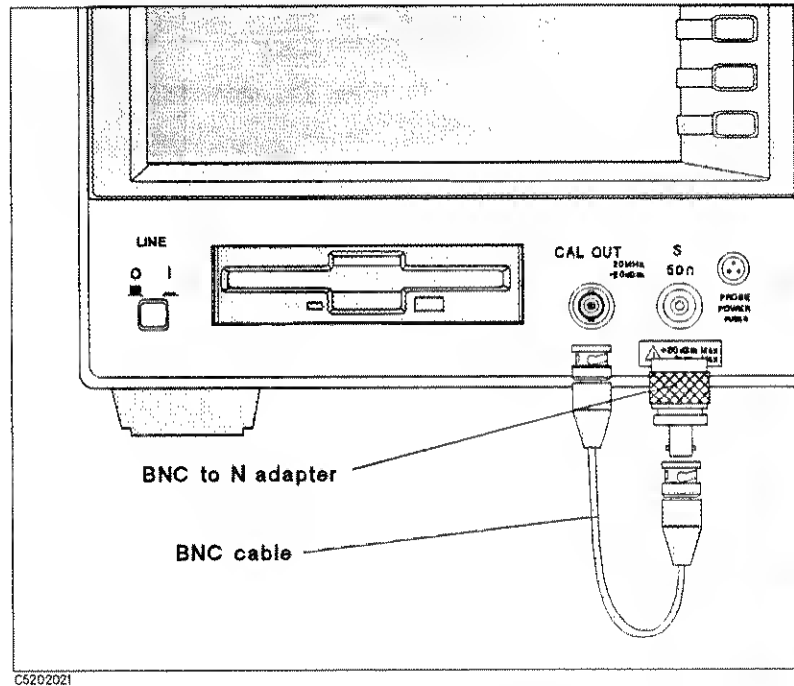

Figure 2-15. Reference Level Calibration Connection
2. Attach the N(m)-BNC(f) adapter (furnished) to an input (S, R, A, or B). (See Figure 2-15.)